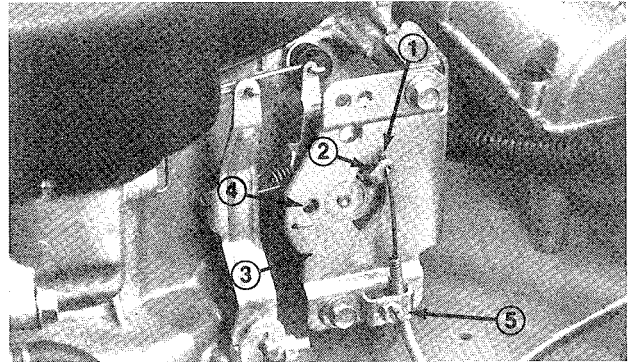

Figure 5
2. Hook wire Z–bend into hole of speed control lever (Fig. 5).
3. Loosen cable clamp screw allowing cable installation, but do not tighten (Fig. 5).